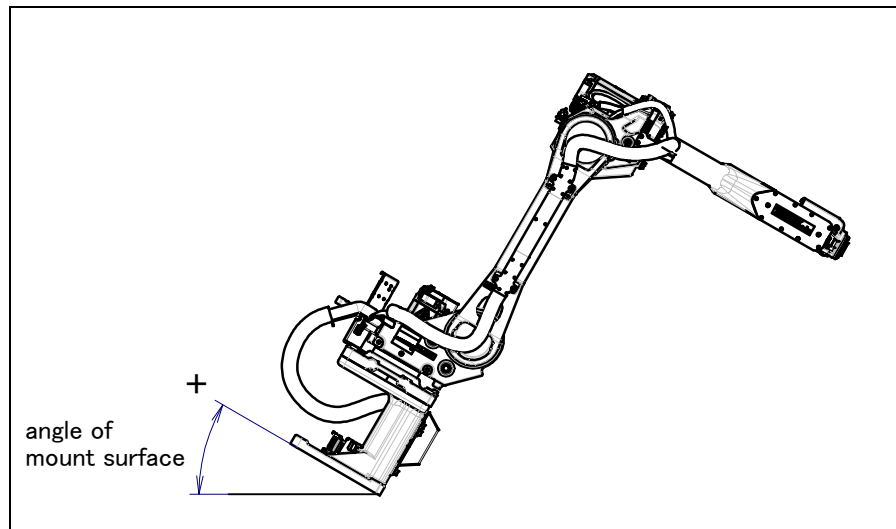

Fig. 1.2.1 Mounting angle
- 6 Input mount angle referring to Fig.1.2.1. Input mount angle referring to Fig. 1.2.1. Robot without pedestal supports only floor mount and upside-down mount.